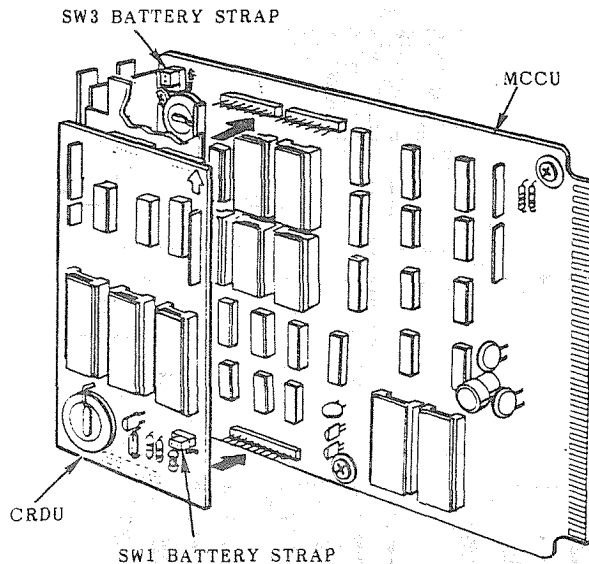

FIGURE 9
06.32 Connect the memory back-up battery on the MCCU (and on the CRDU if the system is so equipped). Refer to Figure 9, locate the SW1 battery strap on the CRDU, and the SW3 battery strap on the MCCU; the plugs are shown in the off or disconnected position. To connect each battery, remove and reinstall the strapping plugs so that they bridge the center pin with the pin labeled **ON**.